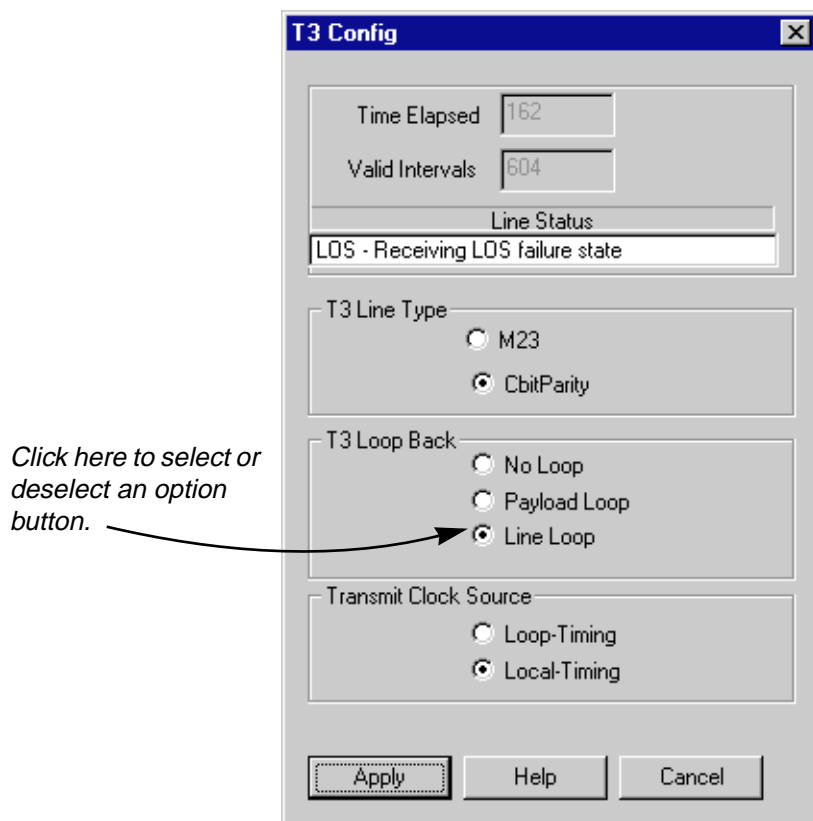

Figure 8-1. The T3 Config Window
2. Select **HSIM W87 Config (T3)**. The T3 Config window, Figure 8-1, will appear.